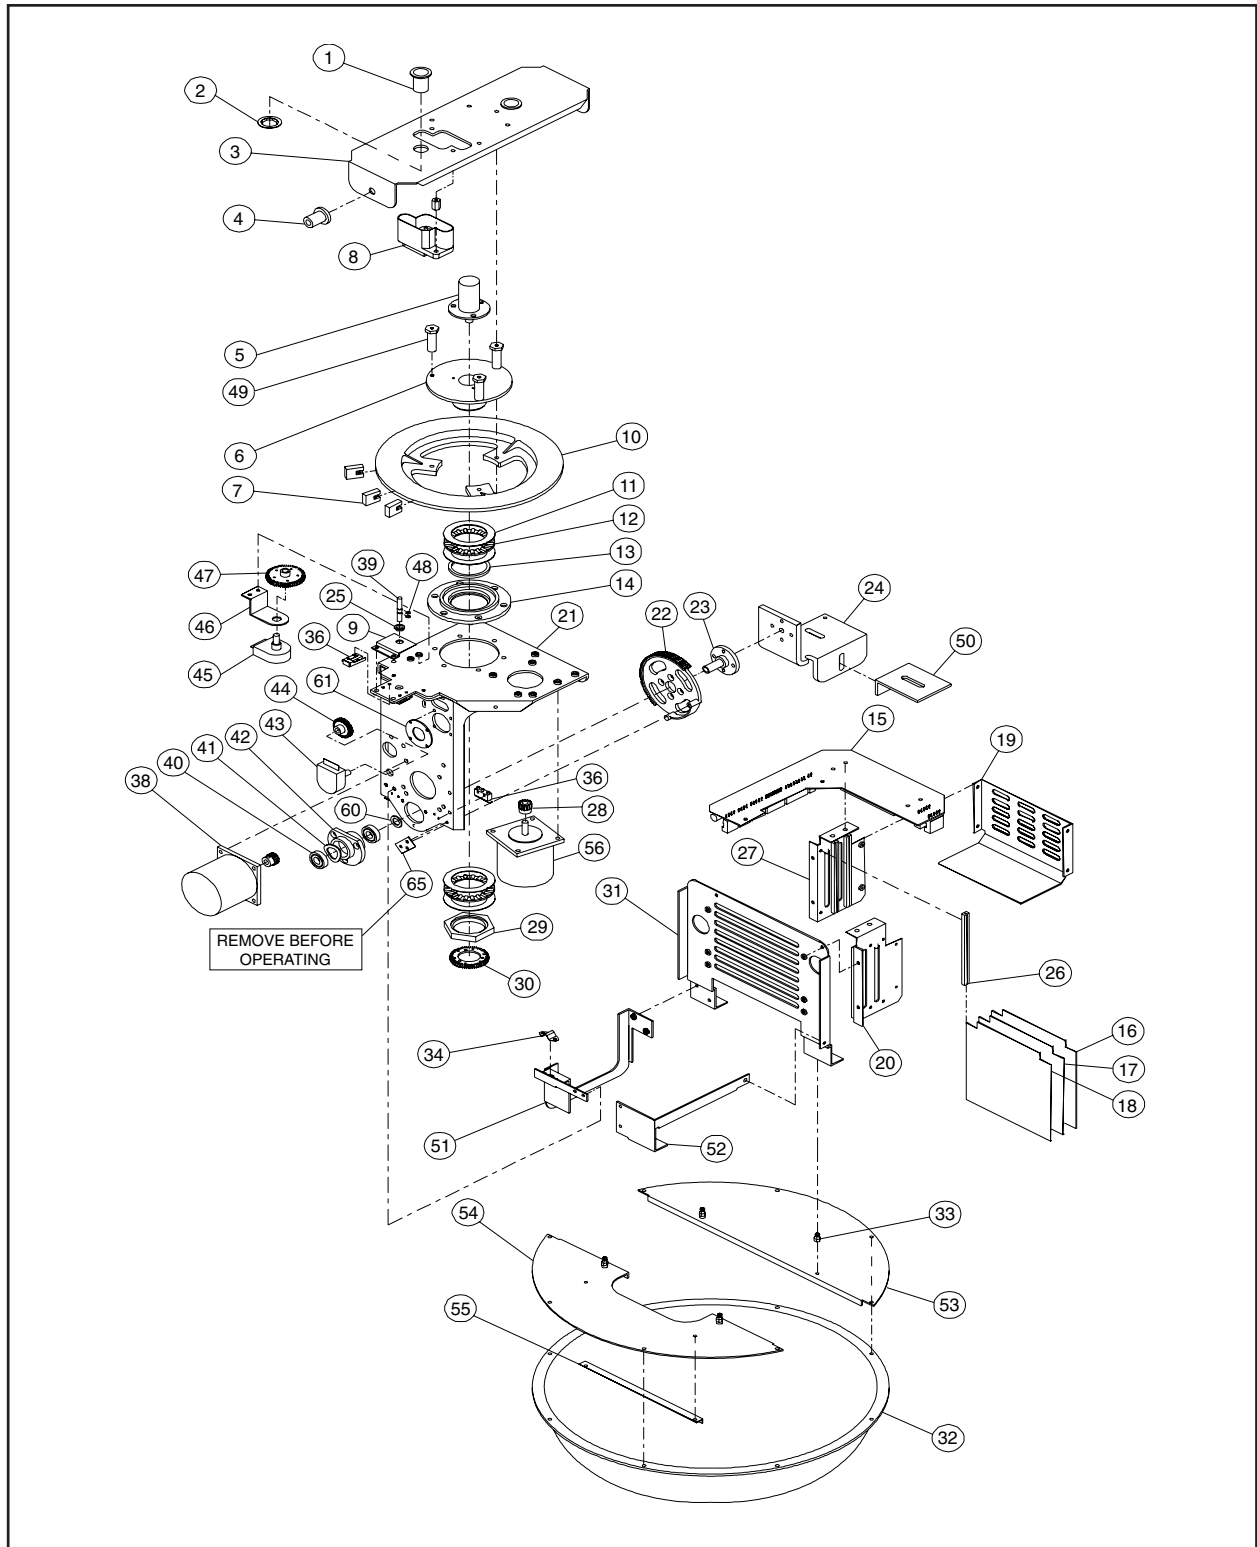

Figure 11. DD14 Series Dome Drive Exploded Assembly Mechanical Parts Diagram
1. Refer to Figure 11 and remove the shipping stabilizer bracket (item 65).
Table A. DD14 Series Dome Drive Exploded Assembly Mechanical Part List (Figure 11)